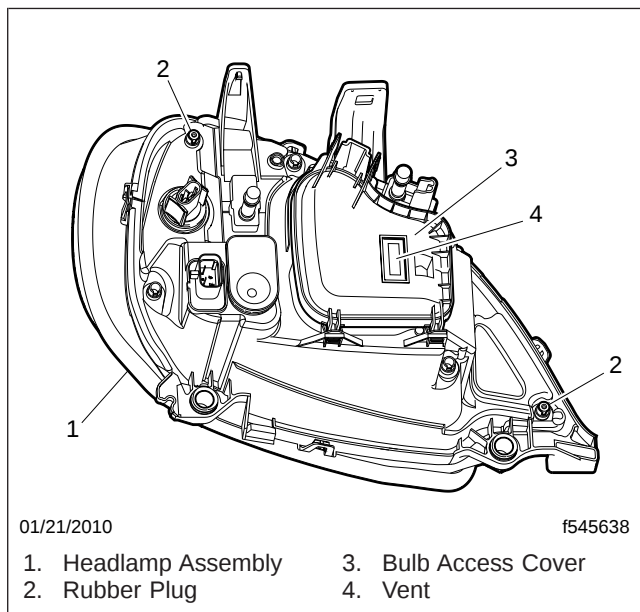
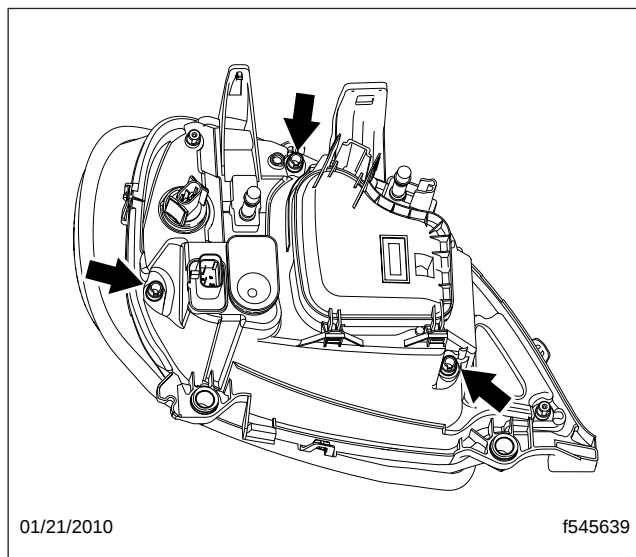

Fig. 1, Water Protection Points
Fig. 2, Closed Holes, No Plugs Needed
- Verify that there are two rubber plugs installed in the headlamp assembly as shown in Fig. 1. Note that there are three other, similarly-sized round holes in the headlamp assembly which are closed and do not need plugs; see Fig. 2.
- Verify that the bulb access cover (see Fig. 1) is attached securely to the headlamp assembly housing.
- On some headlamp assemblies, there is a vent (see Fig. 1) on the bulb access cover. If the cover is vented, verify that the vent holds fast to the cover and is not loose or poorly adhered.